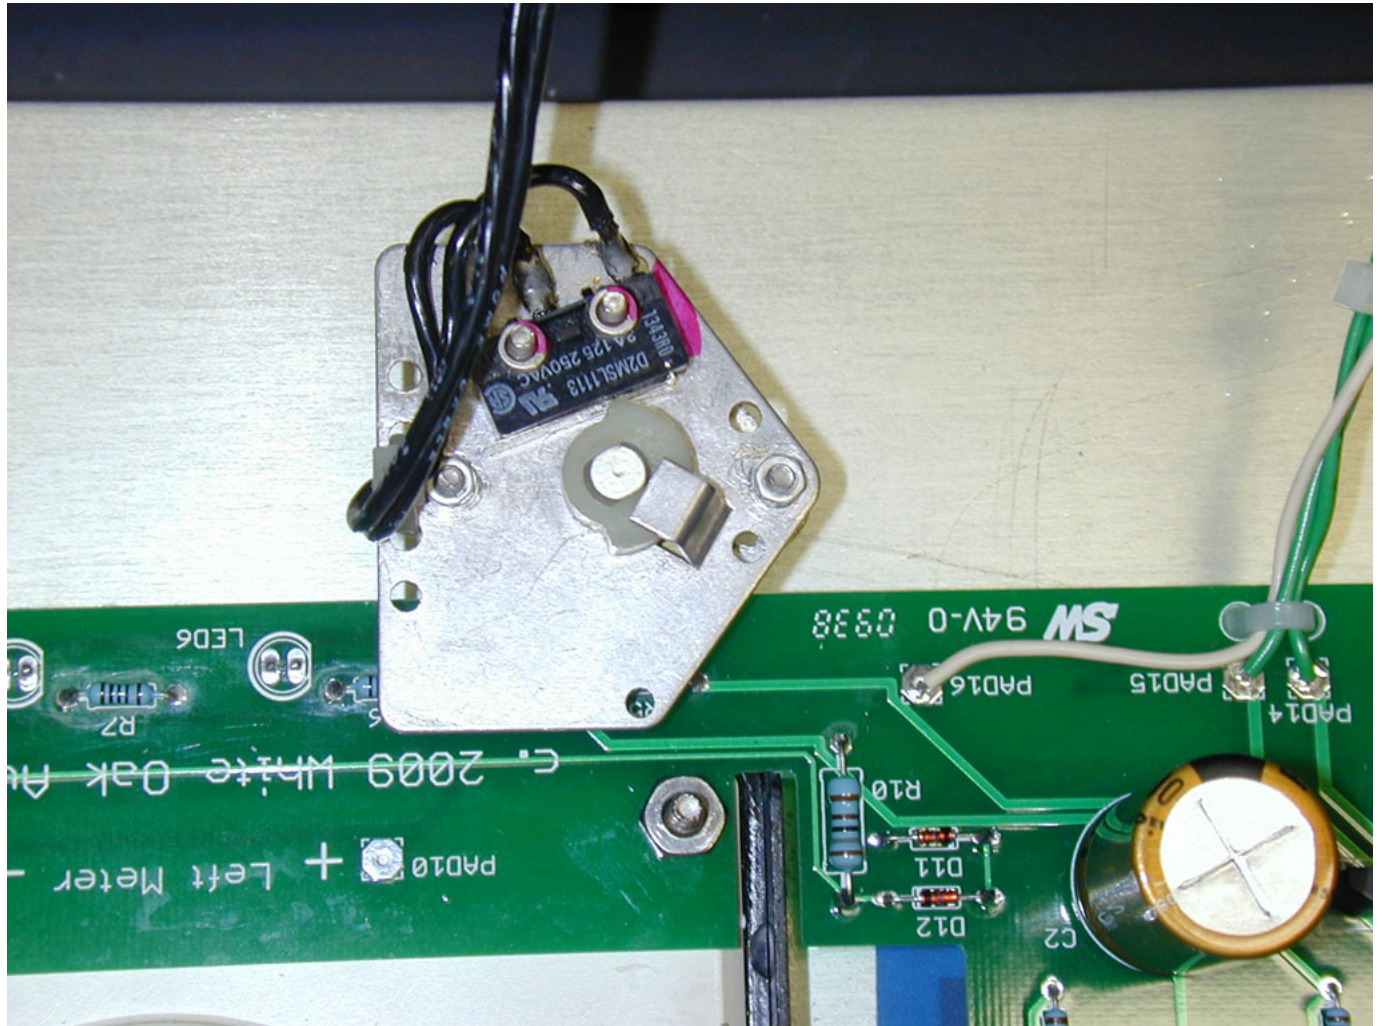

Figure 19. PL700B AC Switch Orientation
26. [] Reinstall AC power switch that you removed in Section 2, step #4 using the 1/2" nut driver to carefully tighten the locknut on the outer faceplate side. Make sure the AC switch is oriented as shown in Figure 19 and also ensure that no part of this metal switch comes in contact with the PC board or its components. It is a close fit. Use the internal nut on the switch shaft and the internal tooth lock washer to adjust the spacing to ensure no contact with the PC board.